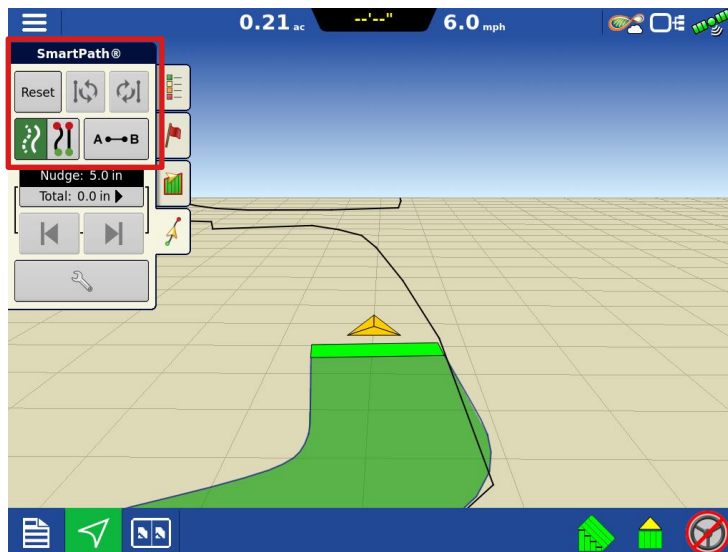

Figure 2 – Able to group identical curve guidance patterns with SmartPath®
- **ENHANCED:** SmartPath® pattern grouping options (Figure 2)